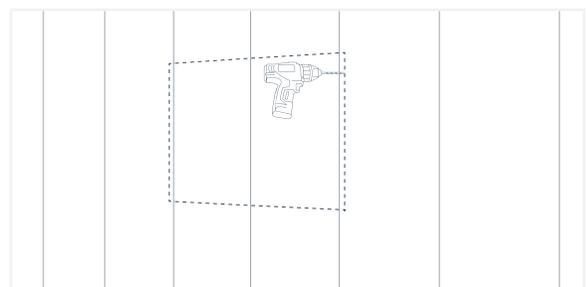

Fig. 59
4. Using a drill or hole saw, cut holes where the mounting points are located. Mounting holes should be large enough so the spacers fit inside and slightly oversized to accommodate expansion and contraction of the surrounding panels. (Fig. 59)